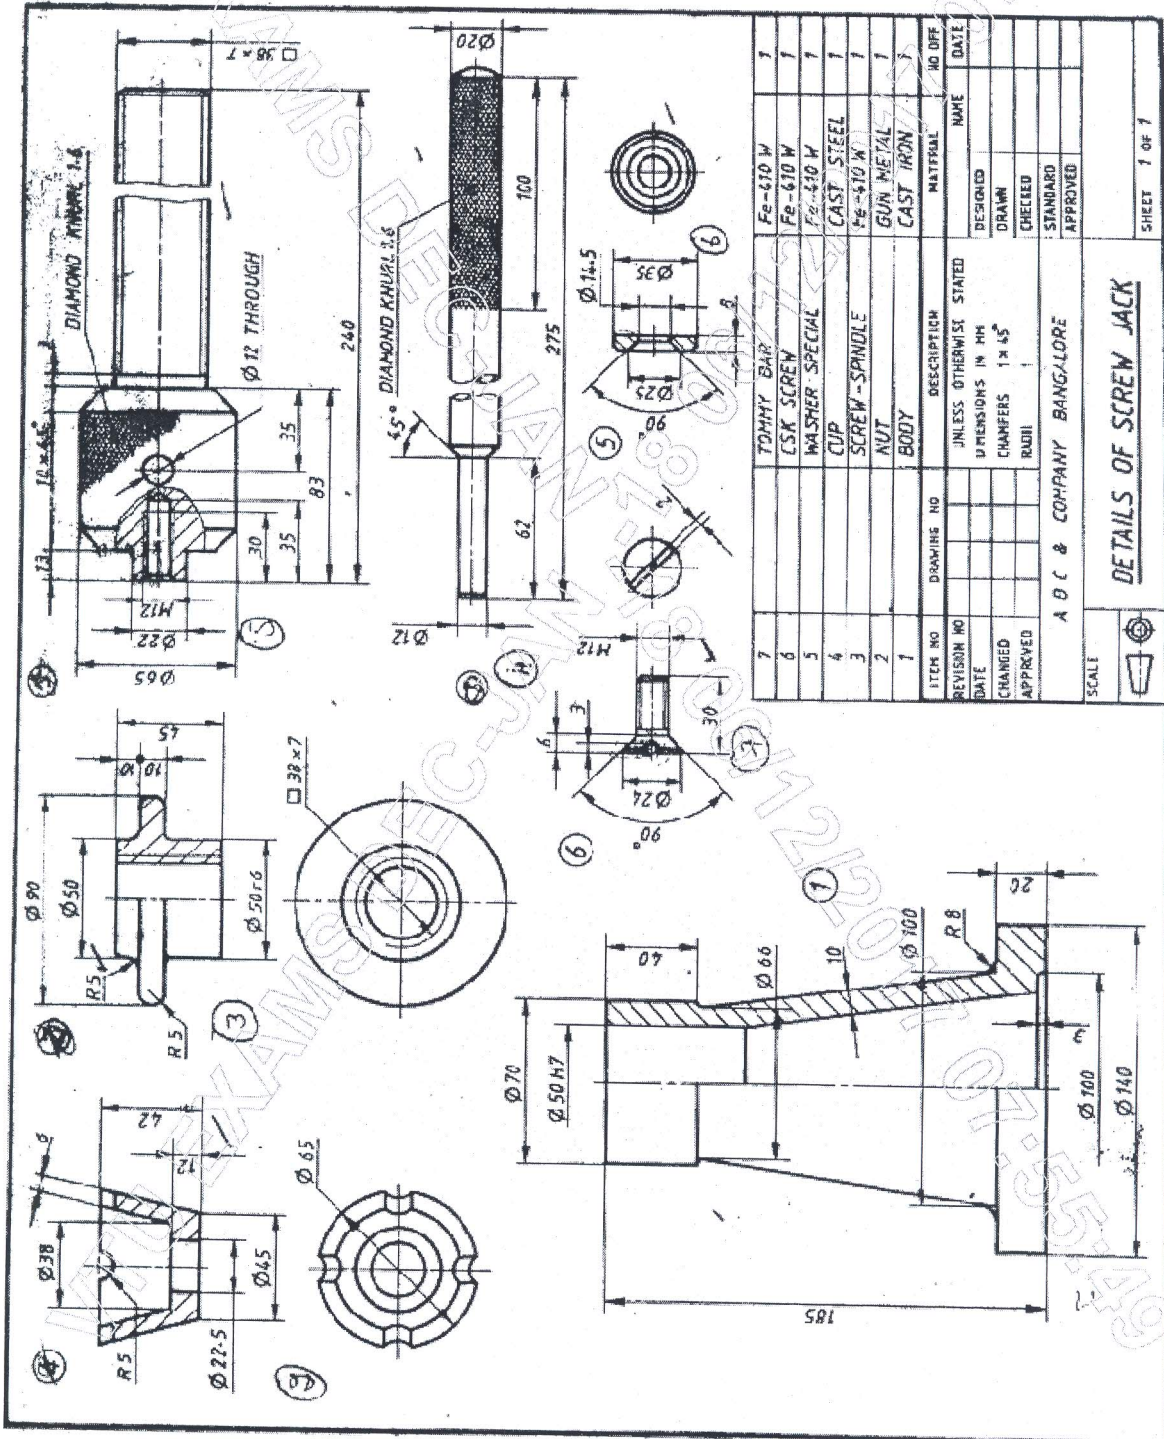

Figure 2. SCREW JACK
- Q.No.5** Details of SCREW JACK is shown in following Figure 2. Assemble the parts and draw the following views.